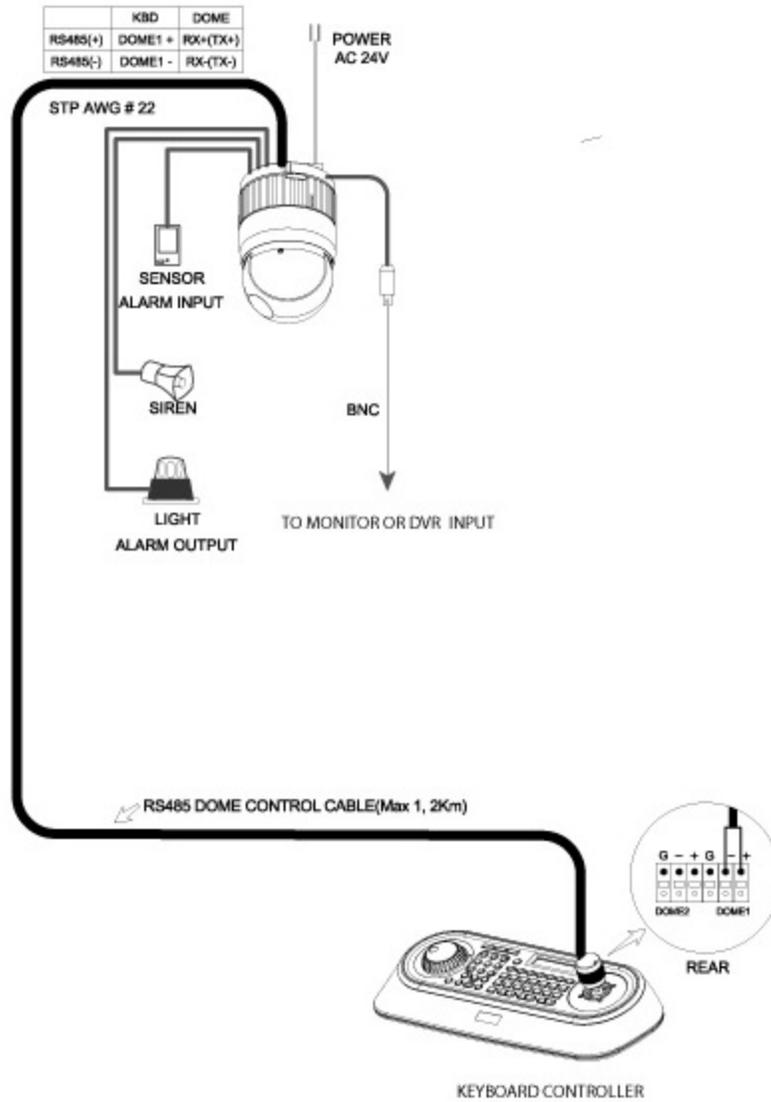

Figure 5. Connecting the Camera to a Keyboard Controller
**+(TX)- terminals:** If you are using a keyboard controller, connect the RS-485 dome camera connector to it (Figure 5). Refer to the keyboard controller manual.